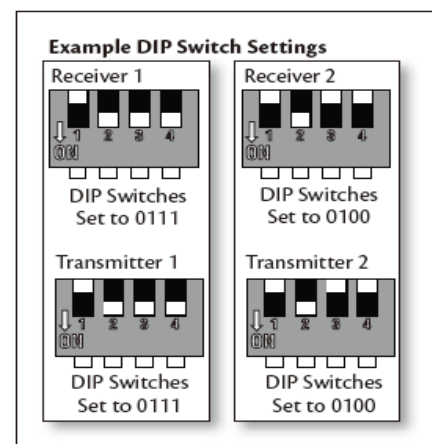

Fig. 12 Receiver DIP switch
- The remote (transmitter) and receiver must be configured so that communication between each other is paired up. This is achieved by setting the DIP switch on the receiver and remote on the same setting. (Fig. 12)